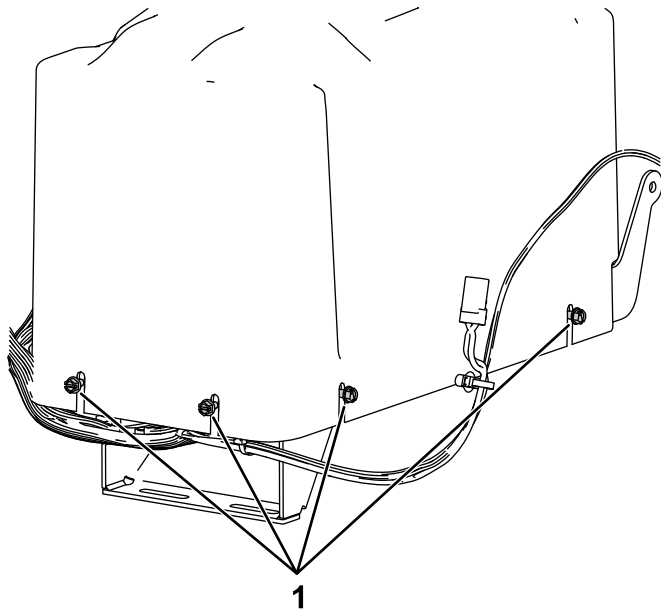

Figure 7
- Loosen the 8 screws securing the battery cover and remove it (Figure 7).